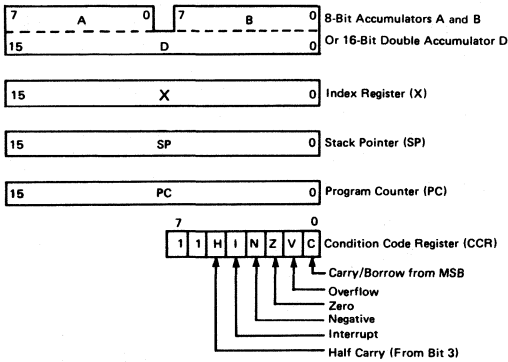

Figure 23 MCU Programming Model
- MCU programming model (See Fig. 23)
The programming model for the HD63P01M1 is shown in Figure 23. The double accumulator is physically the same as the accumulator A concatenated with the accumulator B, so that the contents of A and B is changed with executing operation of an accumulator D.